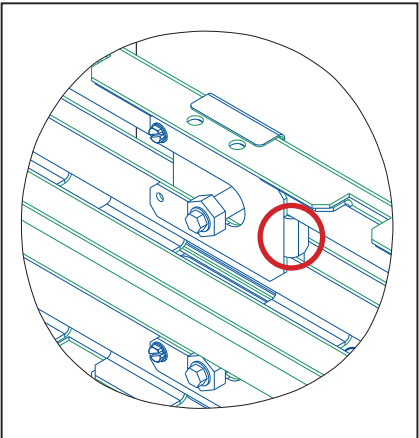

Figure 15: Position Seismic Clip
1. Place a seismic clip (0M-4983082) up to the secured mounting points in the frame. Refer to **Figure 15**.